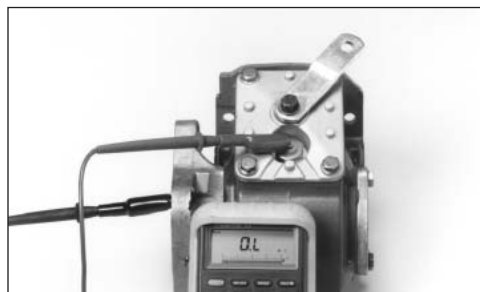

Fig. 23
2. With the other probe, make contact with the shifter cover or housing (Fig. 23).